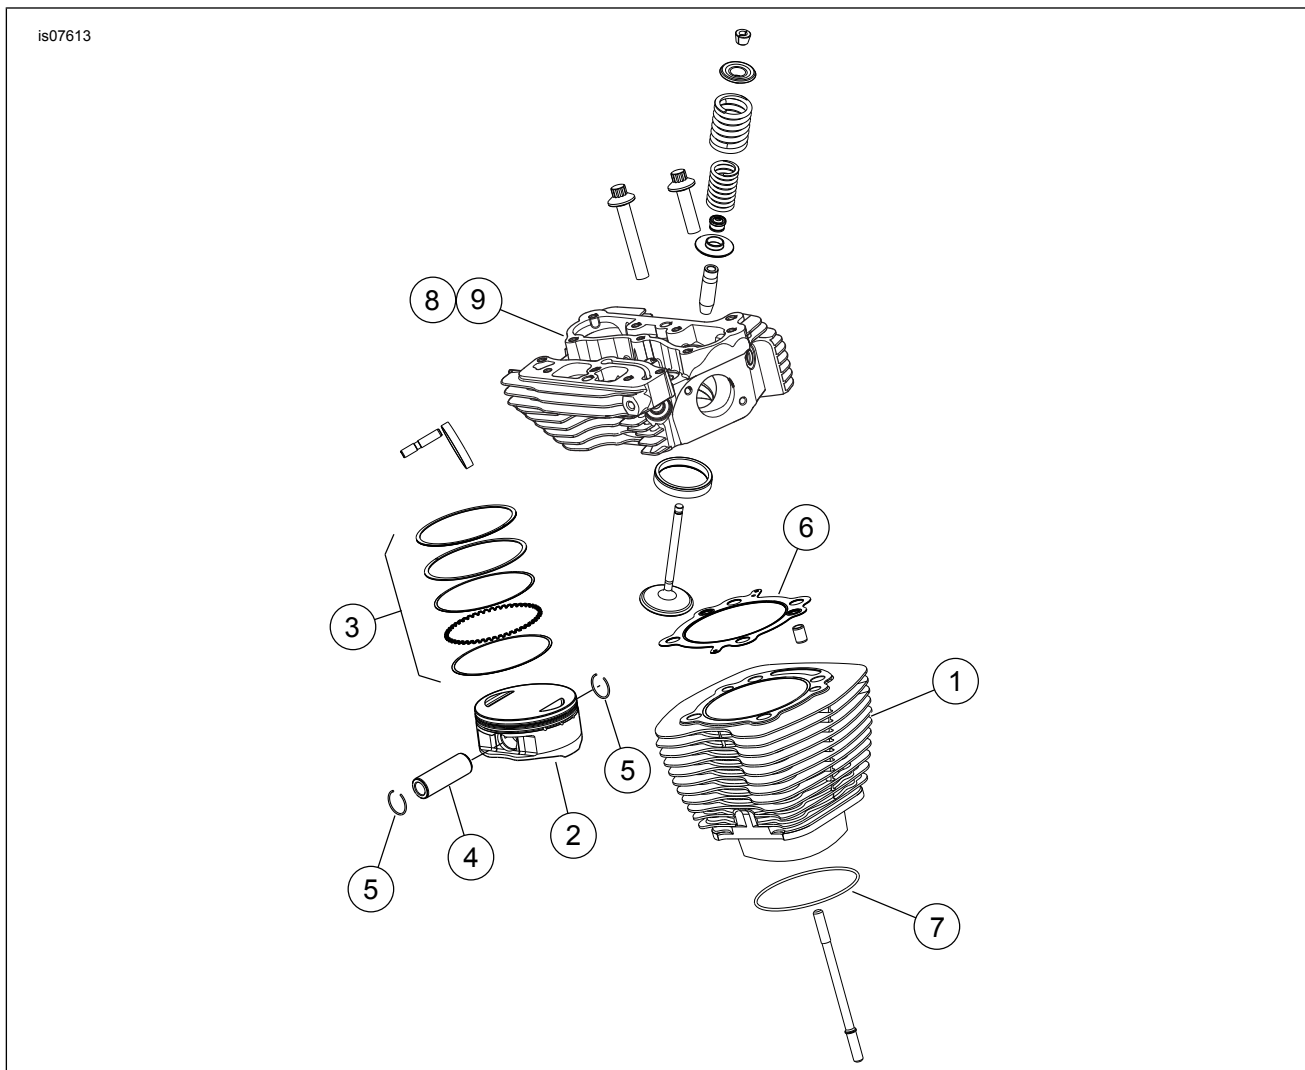
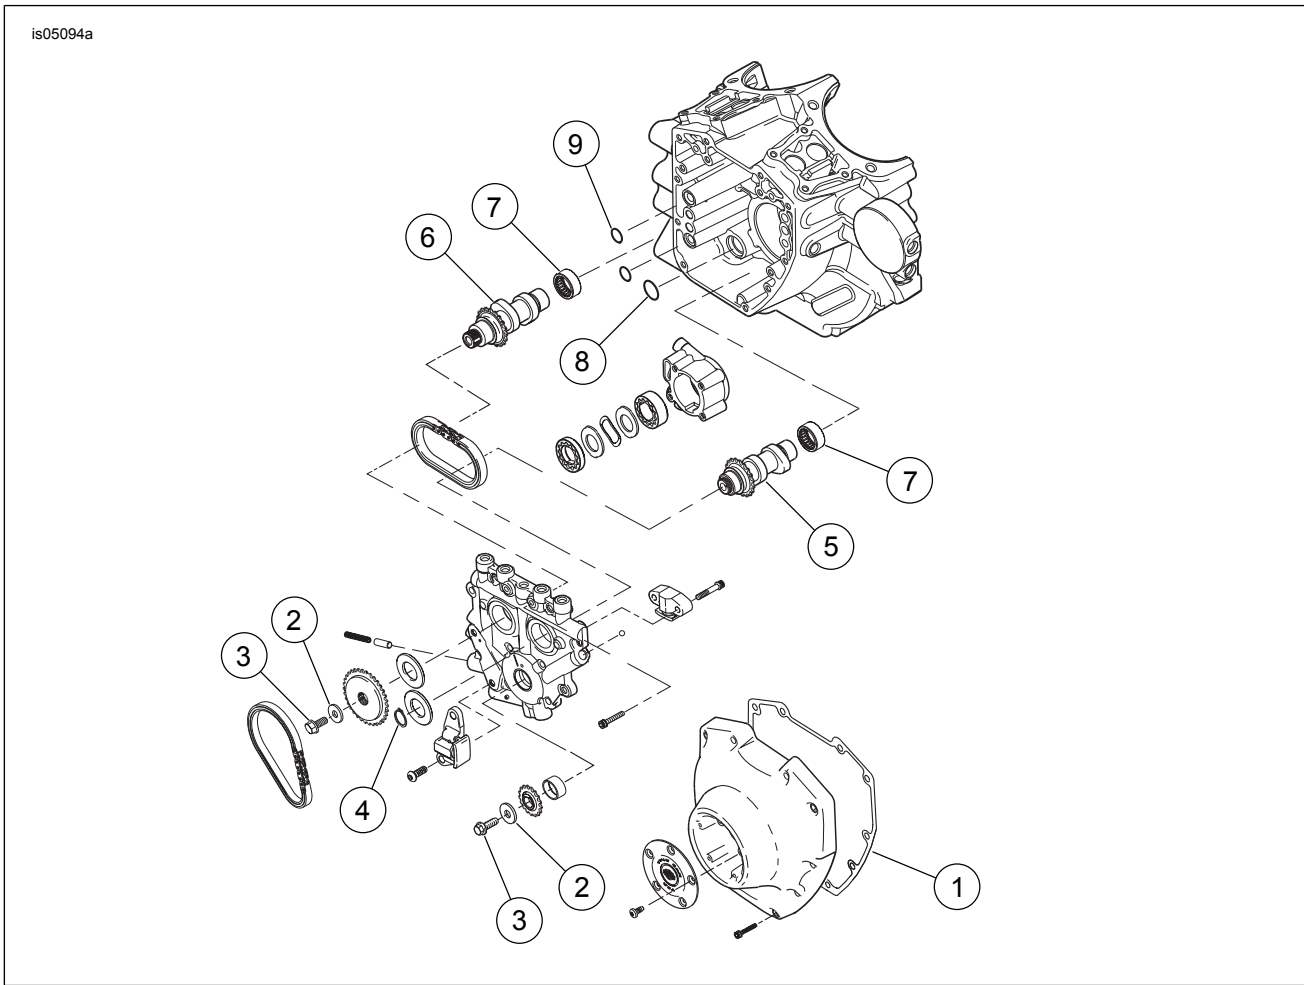

Figure 1. Service Parts: Screamin' Eagle Pro TC 103 (1690 cc) Stage 4 Kit
Figure 3. Service Parts: Screamin' Eagle Pro TC 103 (1690 cc) Stage 4 Kit
See Figure 1 to Figure 3, and Table 1 to Table 3.
1. See Figure 3. Inspect camshaft needle bearings (7) and replace if necessary.
2. See Figure 1 through Figure 3. Assemble cams to cam plate, performance cylinder heads and engine top end using parts from kit. Transfer ACR and coolant coupling fittings from stock heads to heads in kit. Refer to appropriate ENGINE sections in service manual.
Items 1 through 11 are included in Upper End Overhaul Kit (16500244) and items 6 and 7, Figure 1.